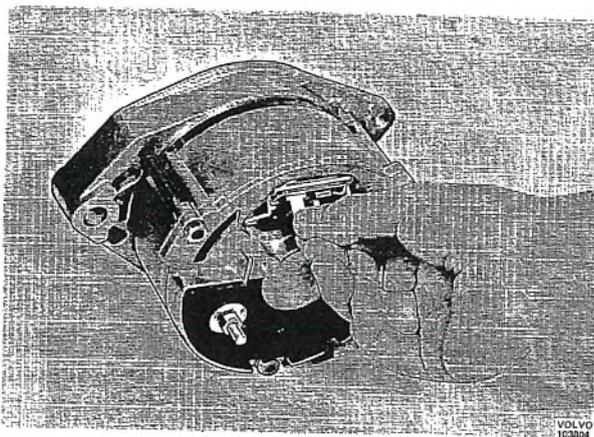

Fig. 3-31. Removing brush holder
2. Remove the screws for the brush holder and take off the holder, see Fig. 3-31.